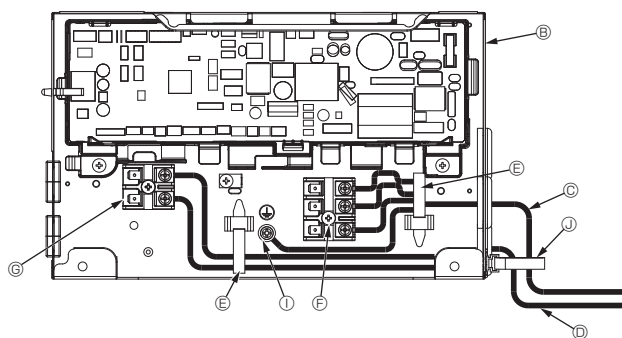

Fig. 7-4
7.2. Indoor unit (Fig. 7-3) (Fig. 7-4) (Fig. 7-5)